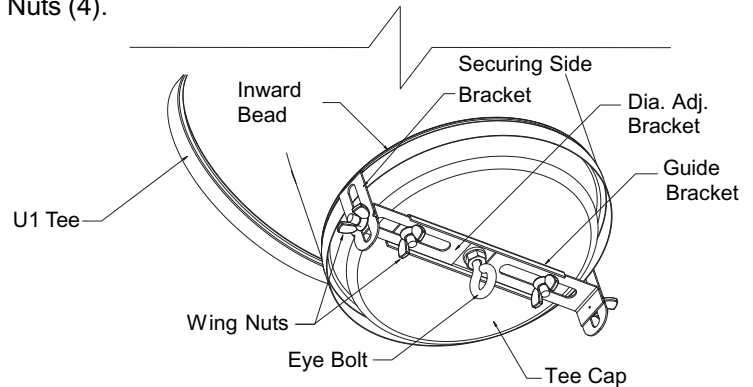

Figure 3 - Bottom View of U1 Tee
4. Position the Diameter Adjustment Brackets and Securing Side Brackets so that the Securing Brackets fit into the inward bead on the bottom end on the Tee or a straight length (see Figure 3).
5. Hold the Tee Cap and Retainer in place and tighten all Wing Nuts (4).